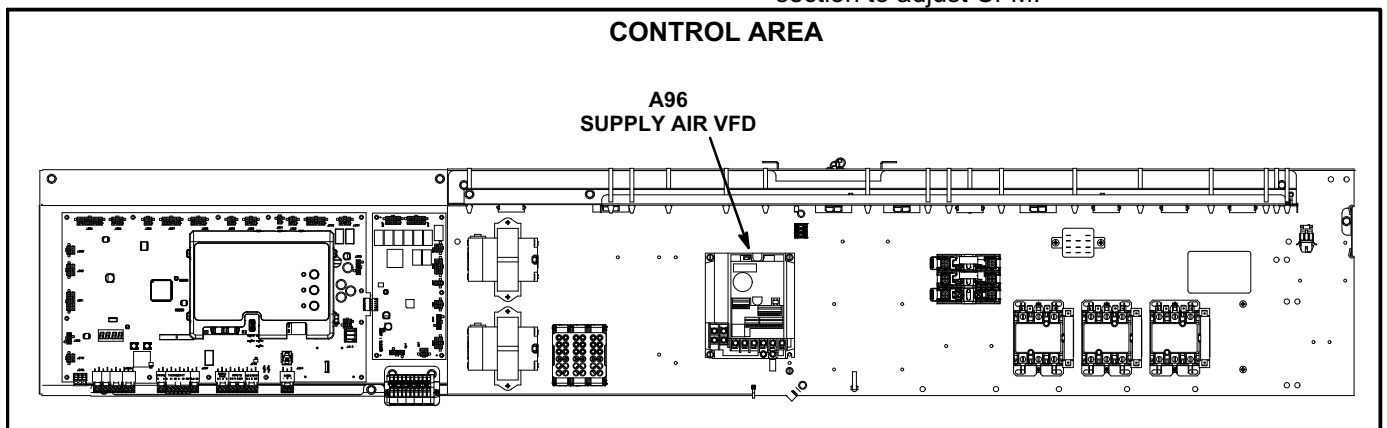

FIGURE 32
The supply air VFD (A96) is located in the control area. See figure 32.
- 4- Locate the A55 Unit Controller. Refer to figure 32.